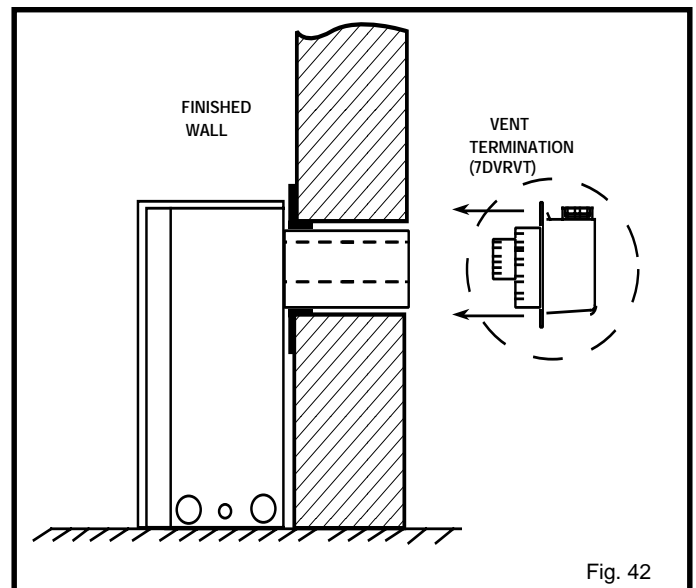

Fig. 42
If the fireplace has crimped ends on the inner and outer flue collars, apply a bead of high temperature sealant and using the appropriate venting component(s) attach to the fireplace with three (3) screws. If the fireplace has no crimps on the end of the flue collars, the use of high temperature sealant is not necessary just secure the component with three (3) screws. Both pipes must be on a level plane. Fig. 42.
Guide the vent termination 4" collar into the 4" pipe then the 7" collar into the 7" pipe. Do not force the venting into position. If the pipes do not line up with the termination collars, disassemble elbows or pipes and reattach to the fireplace collar. (Fig. 42)